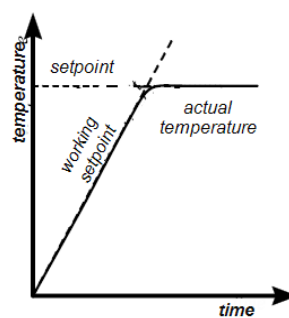

fig 2 - control with ramp-to-setpoint
- By using one program segment, the control can be extended to include ramp-to-setpoint. Fig.2 shows the effect.
Note that to use the Ramp Rate feature, as in Fig. 2, it is necessary to create a program. See the following sections.